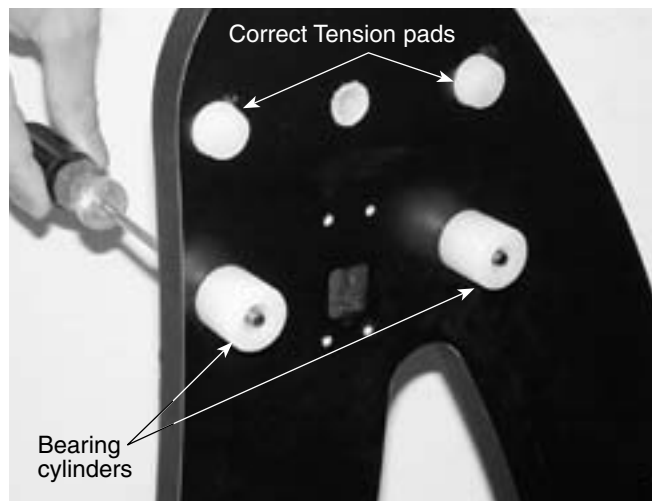

Figure 5. Attaching the bearing cylinders. (XT10 Shown)
10. Attach the handle (M) to the front brace (B) with the two handle mounting hex-head screws. Place one washer on each screw, then press the handle against the front brace (the end of the handle with the logo should be up). Then thread the screws from the inside of the base into the handle until tight using the supplied crescent wrench.
11. Line up one of the altitude bearing cylinders with the inside of one of the four bearing cylinder holes on the side panels. Push a bearing cylinder screw through the side panel and bearing cylinder. Then thread it into the built-in hex nut on the cylinder with a Phillips head screwdriver (Figure 5). The beveled end of the cylinder should be facing away from the side panel. Repeat this for the remaining three bearing cylinders.